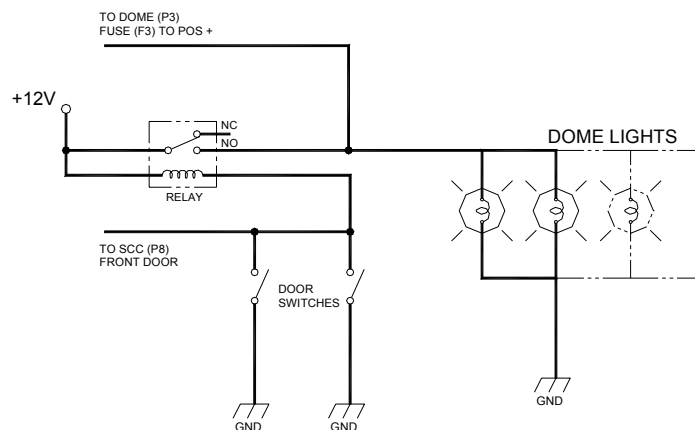

FIGURE 3
**Figure 3** shows an example of a relay isolated circuit like may be found on some vans. The polarity fuse position is determined the same way as described for a standard bus, see A in Interior Overhead Light section above.